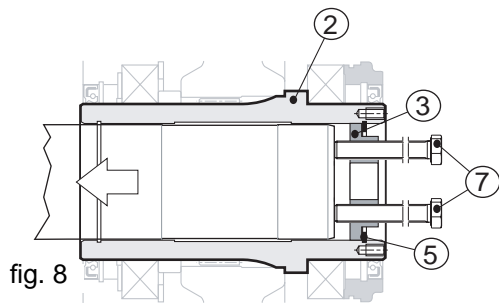

fig. 8
Insert 2 bolts (pos. 7) into the two threaded holes on the backplate (pos. 3) (and screw them until they touch the machine shaft (pos. 1). Now give them alternately one full turn each (see Fig. 8).